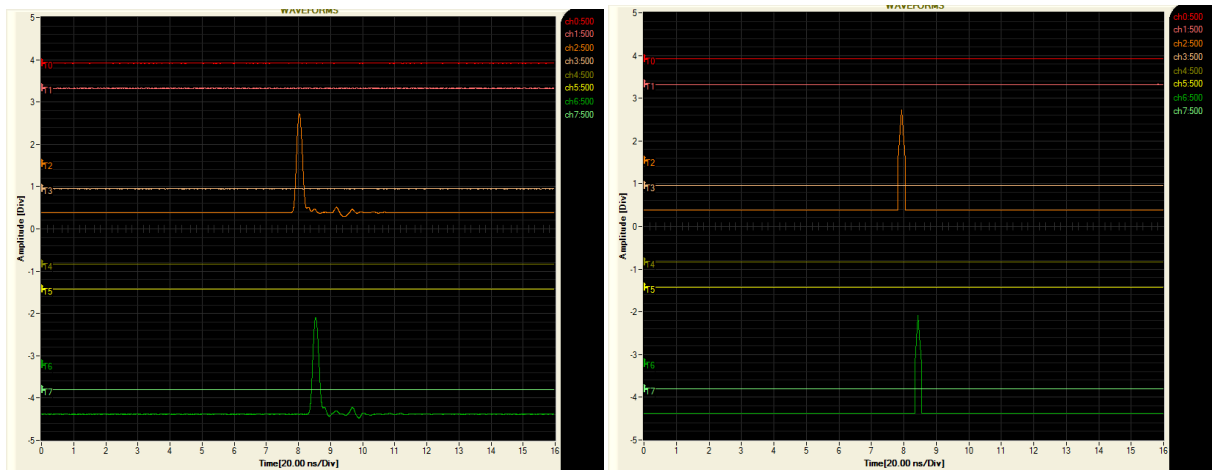

Figure 5.8: display for runs with (left) and without (right) Waveforms
- **Run without Waveforms:** by clicking on this item, the user chooses that only the measurements are sent from the system to the computer. That way, no waveform is transmitted and the event rate increases drastically. Since the measurements are then performed by the firmware in the boards, the *Firmware Measurement Mode* is enforced and the corresponding parameters have to be checked. The waveforms are then displayed based on the firmware measurements as shown on **Figure 5.8**.